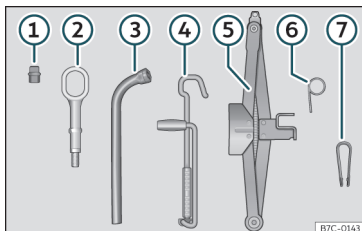

Fig. 58 Underneath the floor panel of the luggage compartment: on-board tools.
- Fit the plastic clip (vehicle tools »» Fig. 58 ⑦) over the cap until it clicks into place »» Fig. 59.